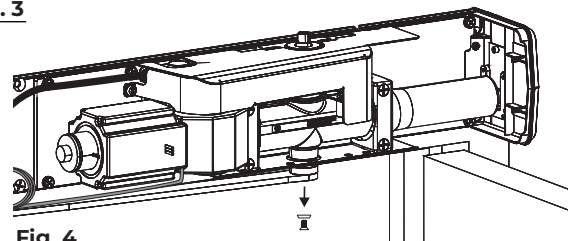

Fig. 4
4. Remove screw and countersunk washer using a Phillips screw driver. (Fig. 4)